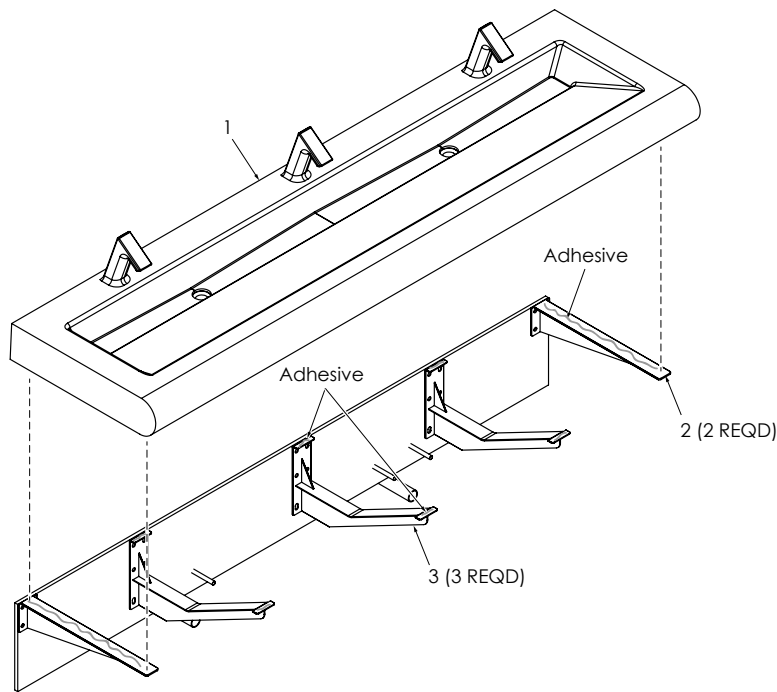

Figure 12
12. Install Deck (1, Figure 12) onto Side and Middle Brackets (2, 3).